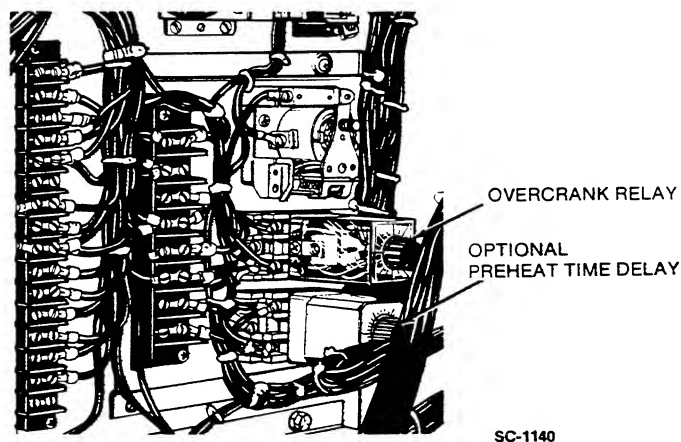

FIGURE 9. LOCATION OF OVERCRANK RELAY AND OPTIONAL PREHEAT TIME DELAY
1. Locate the overcrank relay on the three-wire control, as shown in Figure 9. It has a range of 0.6 to 60 seconds unless the three-wire control has the optional relay with the generator failure contact. Then the time range is from 6 to 60 seconds.
1. Locate the preheat time delay, as shown in Figure 9. It has a time range of 0.6 to 60 seconds.